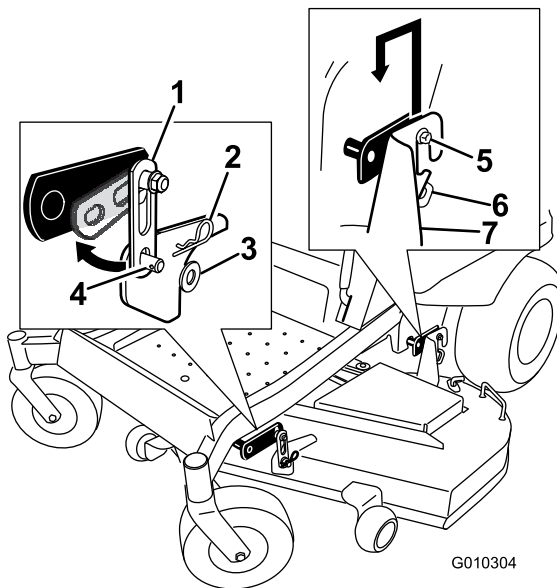

Figure 64
2. Remove the hardware from the front deck hangers on both sides of the deck (Figure 64).
3. Carefully lift the deck off the rear hanger bolts and lower the front of the mower deck to the ground (Figure 64).
5. Lift the rear of the mower deck and guide the hanger brackets over the rear hanger bolts (Figure 64).
6. Attach the front support on the mower deck to the front deck hangers and secure them with a washer and hairpin cotter (Figure 64).